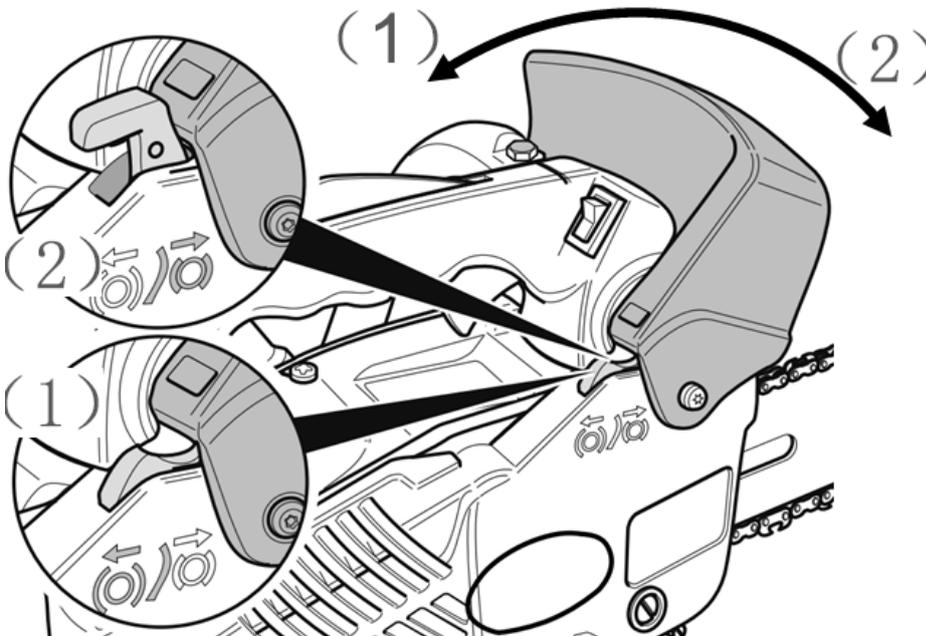

Fig.20
To activate the chain brake manually, move the hand guard lever forward (towards the chain guide) with your left hand (1 to 2, fig.20).
Pull the brake lever up toward the left-hand handle ((2) to (1) , fig20) until it clicks into place.
⚠️ Before starting the engine, push the chain brake lever down toward the front (.Activates the brake .fig.20-(2))